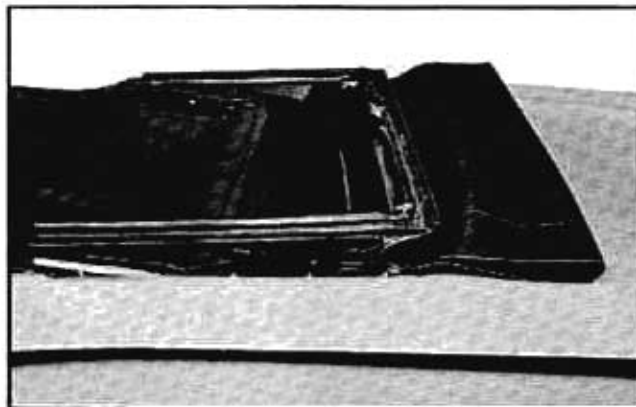

Fig. 7-7 Smooth Out Top Material
7. Operate top control switch until top is in fully lowered position. Smooth out top material on body panel (Fig. 7-7).
1. Stop the car. Disengage all top boot snap fasteners from studs, turn boot over seat back and fold ends of boot toward center. If thoroughly dry, top boot may be removed from retainer, folded and placed in protective case. Smooth out top material on body panel (Fig. 7-7).